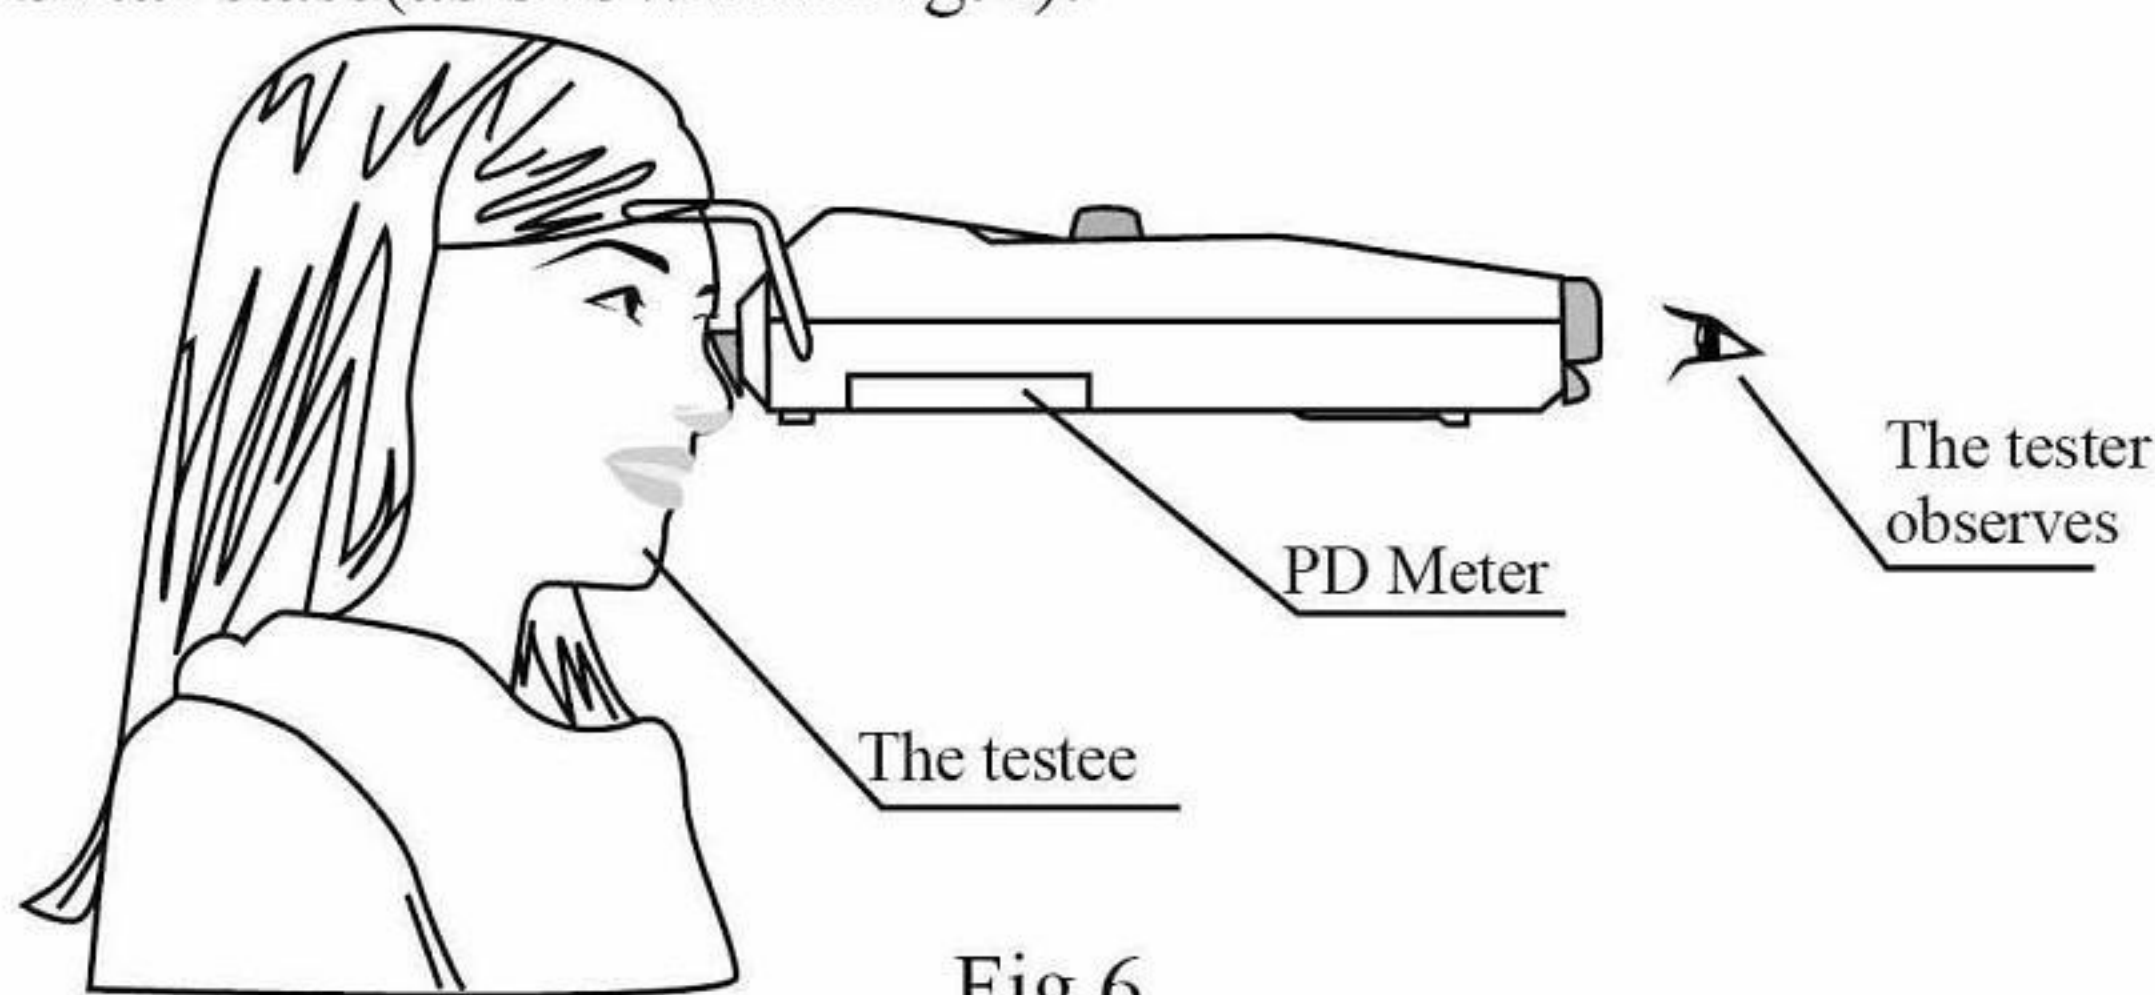

Fig.6
**4.3.2** Put the forehead bearer lightly on the testees's forehead and nose bearer lightly on testee's nose, then keep the device in a horizontal state(as shown in Fig.6).